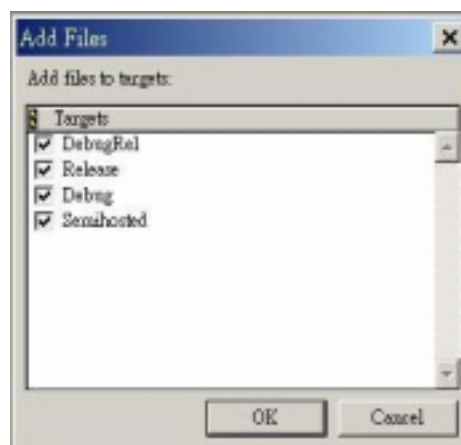

Figure 9 Add Files
- (1) Copy file led.c, pr_header.c, and uHAL_u_.a to your semihosting directory.
- (2) Select **Project** → **Add Files**. Add Files dialog is shown in Figure 9.
- (3) Navigate to the semihosting directory and choose above three files.
- (4) Click **Open**. Then Add all files to targets.